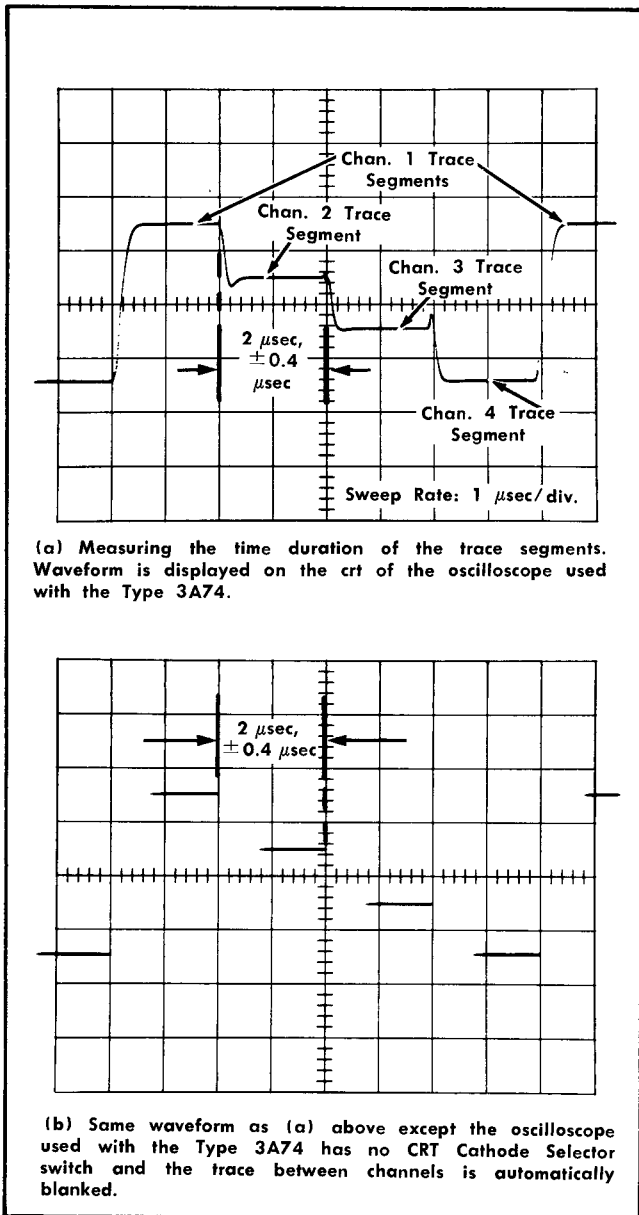

Fig. 6-3 Checking the free-running repetition rate of the Blocking Oscillator stage.
- c. Check the chopped segments of the trace for an "on time" duration of 2 μ sec, within a tolerance of 0.4 μ sec (see Fig. 6-3). If the segments are within the specified time duration, the Blocking Oscillator stage is operating at a repetition rate of 500 kc, within a tolerance of 25%.